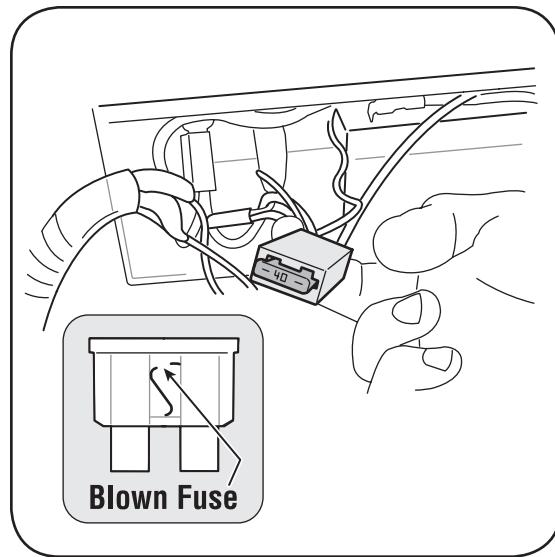

Figure 5-6: When replacing fuse, use a standard automotive 40 Amp fuse.
2. Remove fuse from socket and inspect as shown in Figure 5-6. If it is burned out, replace with standard automotive 40 ampere fuse.